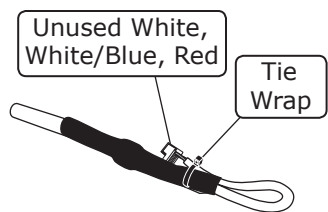

Figure 1a
2. Tie wrap wires to the rotary pots as shown in Figure 1a, below.